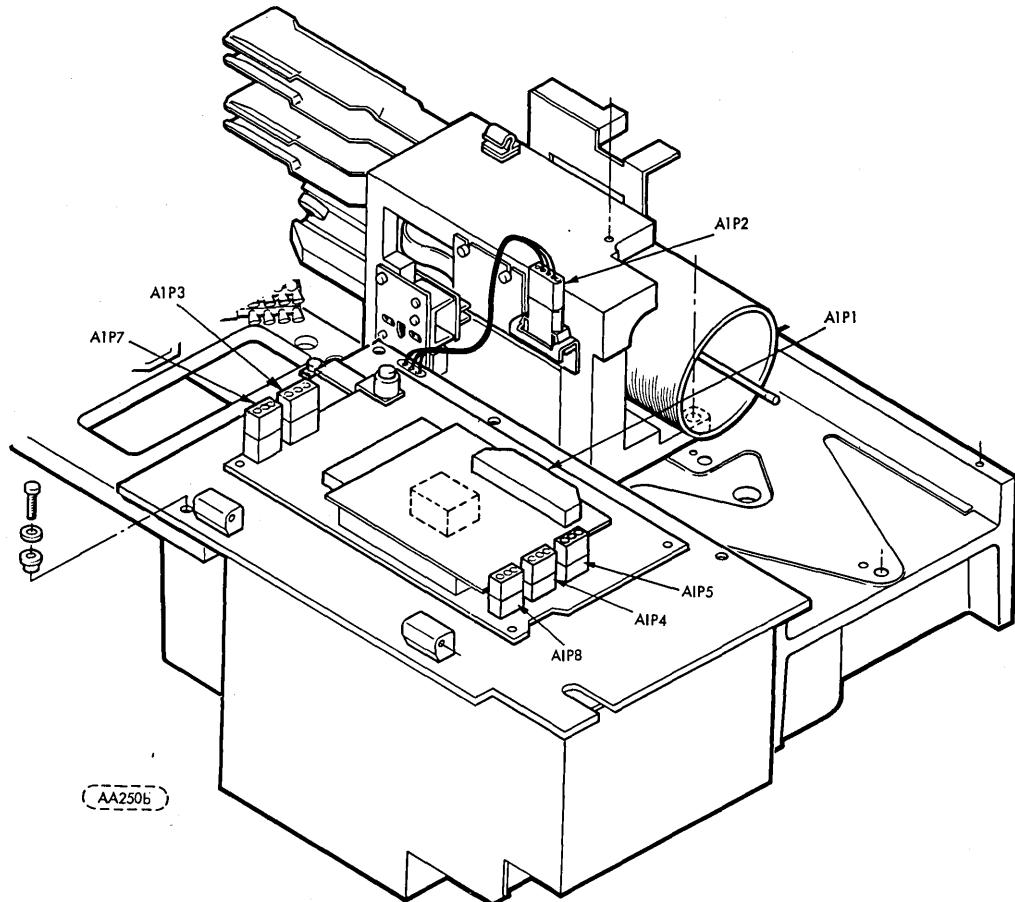

FIGURE LE2-1. PLUG LOCATIONS
16. Unplug A2P2 (see Figure LE2-1) connecting the voice coil flexible lead to the power supply.
5. Connect A1P2 (see Figure LE2-1) connecting the voice coil flexible head to the power supply.